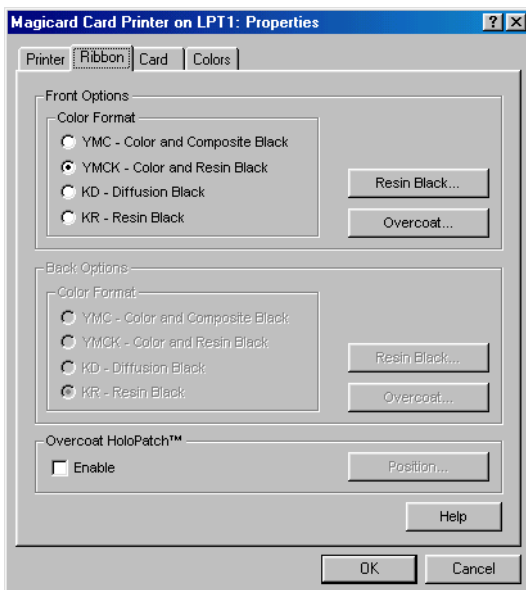

Figure 7: Printer Configuration Options – Ribbon Tab
7. Click on the Ribbon Tab and a window with printer ribbon options appears (see Figure 7).